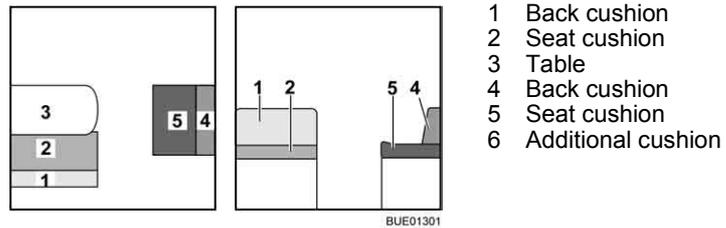
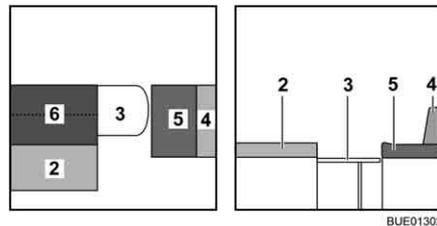

Fig. 128 Prior to conversion
Fig. 129 During conversion
- Convert the table (Fig. 128,3) to a bed foundation (see section 6.11).
- Remove the back cushion (Fig. 128,1) and lay it aside.
- ▷ Depending on the model, the back cushion (Fig. 128,1) can be used instead of the additional cushion (Fig. 129,6).
- Unfold the additional cushion (Fig. 129,6) and lay it on the table.